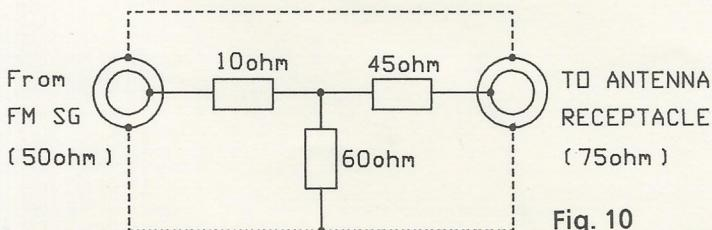

Fig. 10
- (f) Connect the output of FM RF signal generator to the antenna through dummy antenna. Set the frequency of FM RF sweep generator to 98.1MHz exactly, and tune the receiver to 98.1MHz as well. Let the output level of FM RF sweep generator be 1mV. Refer to Fig.10.